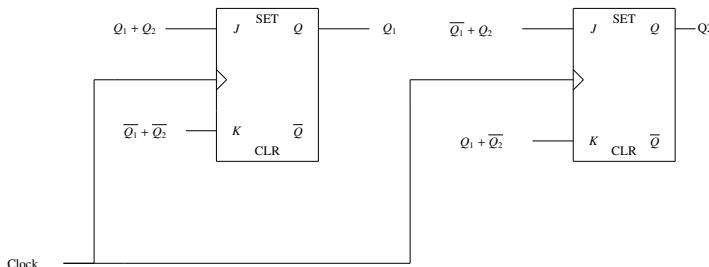

Fig. 5.23
23. A 2-bit synchronous counter using two J-K flip flops is shown in Fig. 5.23. The expression for the inputs to the J-K flip flops are also shown in the figure. The output sequence of the counter starting from $Q_1Q_2 = 00$ is GATE-IN2018,44